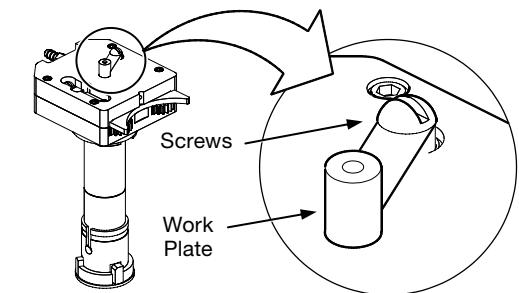

Figure 33 Inspecting the Work Plate and Screws
12. Verify that the work plate screw is tight and free from excessive oxidation. See Figure 33. Clean the work plate with a fine-grit abrasive pad if necessary.